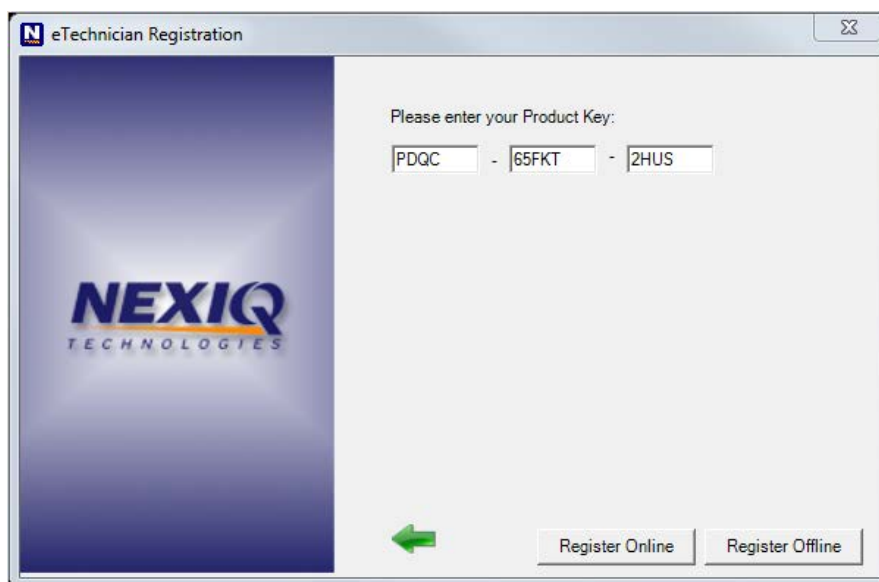

Figure 2.8 Product Key Screen with Registration Options Available
- 1 Click **Register Offline** on the Product Key Screen (Figure 2.8).